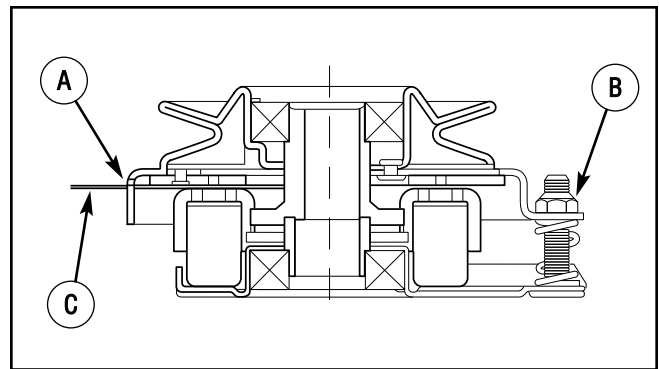

Figure 23: PTO clutch adjustment
3. Insert a .016"-.018" (0,40-0,45mm) feeler gauge (C, Figure 23) through each window, positioning the gauge between the rotor face and the armature face as shown.
4. Alternately tighten the adjustment nuts (B) until the rotor face and armature face just contacts the gauge.